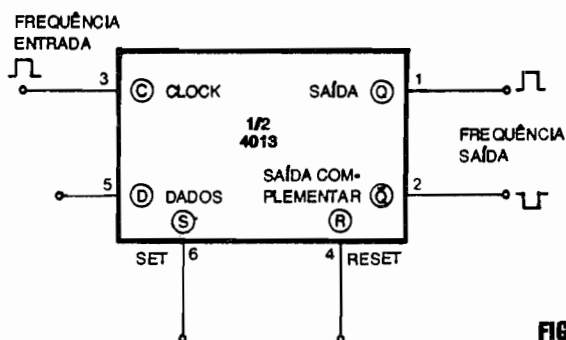

FIG. 2
- **FIG. 2 - INDIVIDUALIZANDO UM DOS BLOCOS INTERNOS DO 4013...**